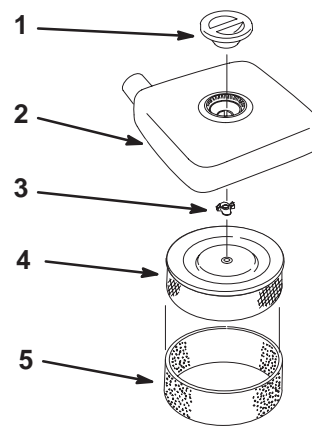

Figure 33
2. Clean around the air cleaner to prevent dirt from getting into the engine and causing damage. Unscrew the knob and remove the air cleaner cover (Fig. 33).
3. Carefully slide the foam element off the paper element (Fig. 33).
4. Unscrew the cover nut and remove the paper element (Fig. 33).
1. Carefully slide the foam element onto the paper air cleaner element (Fig. 33).
2. Place the air cleaner assembly onto the air cleaner base (Fig. 33).
3. Install the air cleaner and secure with cover nut (Fig. 33).